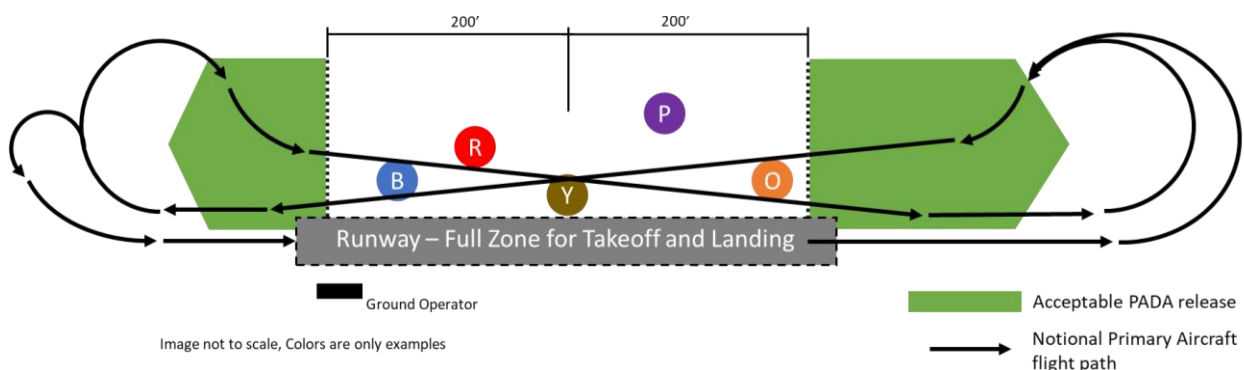

Figure 8-1 – Notional PADA Release Diagram. Not to scale.
- Complying with Section 8.17.1 and 8.17.2 as shown in Figure 8-1.